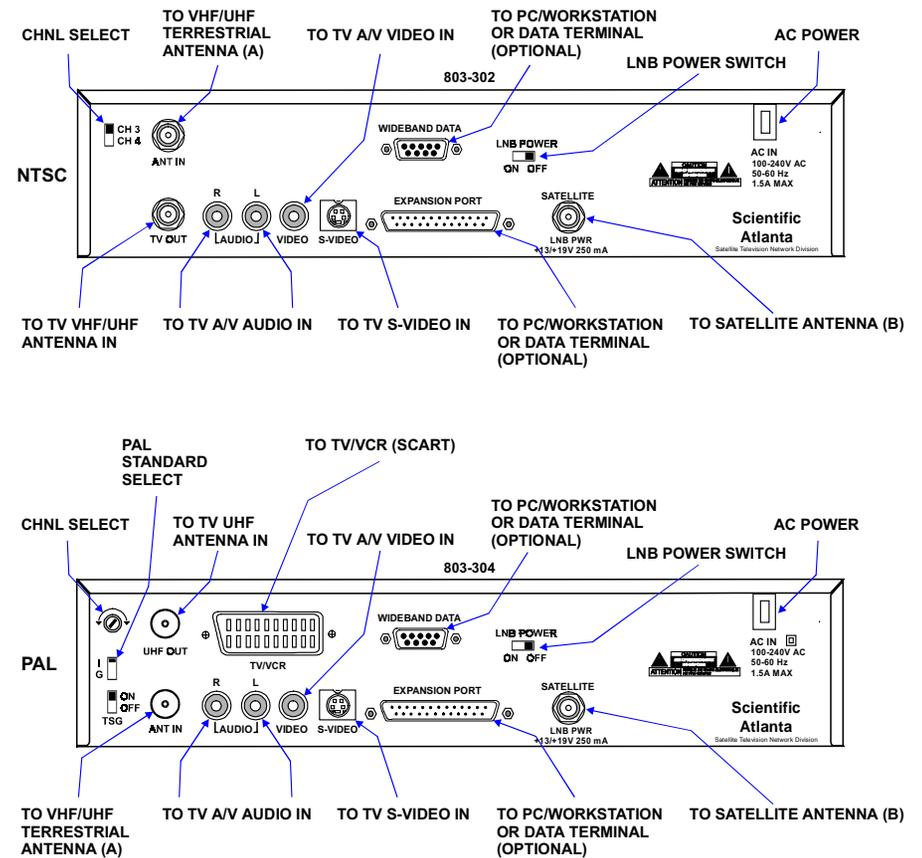

Figure 3. Rear panel connections
To maximize system performance and to take advantage of your TV monitor and A/V capabilities, use stereo A/V audio and S-Video cable connections wherever possible. S-Video connections provide significantly better quality video output in comparison with standard RCA (phono) type or RF (coaxial) type connections. If the system components you are connecting to the BSR do not include S-Video (or SCART) connectors, use A/V connections instead of RF. Note that certain connections may not be required or may be used in place of others, depending on how you intend to connect your receiver. Figure 3 shows available receiver rear panel connections for both NTSC and PAL models. For equipment interconnection details, see "TV & RF plus optional connections".
- ❑ **PAL models only:** Connect a SCART cable from the receiver TV/VCR (SCART) connector (see Figure 3 on previous page) to the SCART connector on your TV or VCR